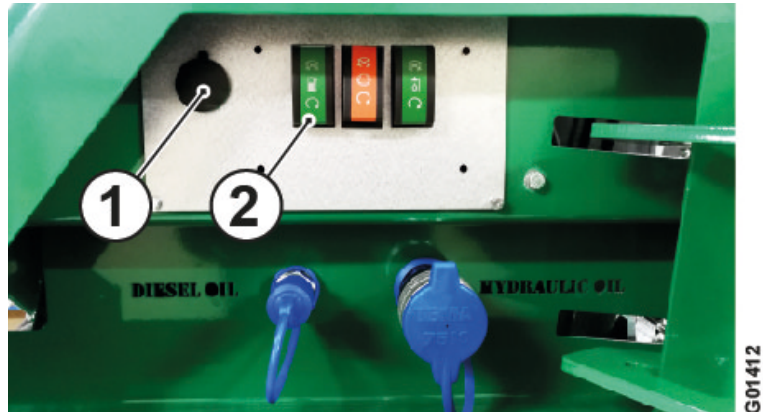

Fig. 123 Filling fuel
- A 24 V outlet (1) is included as standard under the cover to operate an external fuel pump.
- As an optional extra, the machine can be fitted with an automatic fuel pump, see Fig. 123 *Filling fuel*, page 145. Connect the filling hose to the 1/2" quick connection and start the pump by pressing the ON button (2). The tank is fitted with a level monitor which automatically stops the pump. It is also possible to manually stop the pump by pressing the OFF button.